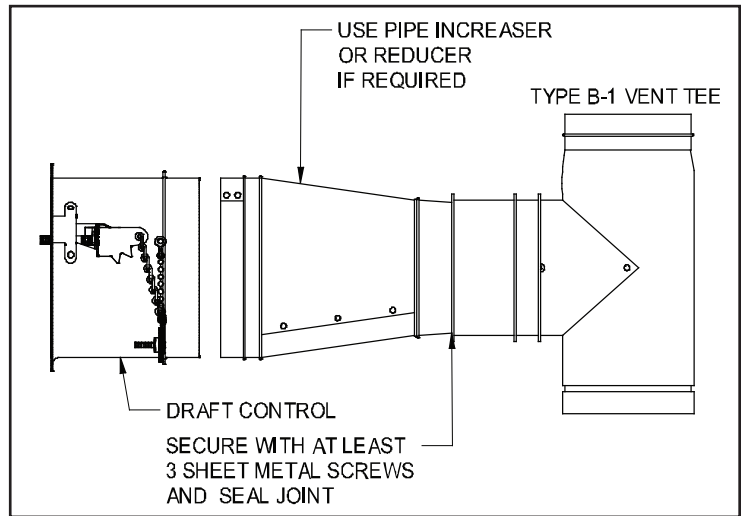

Figure 5
1. Install a single-wall vent pipe reducer or increaser into the Type B-1 inner pipe and fasten using sheet metal screws. (See Fig. 5)